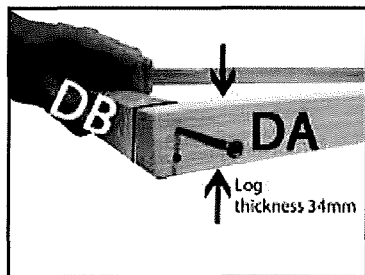

Fig 2
- 3 Screw together at each corner, 10mm in from the edge (ensuring each corner is flush) with 2x50mm screws (fig 2).